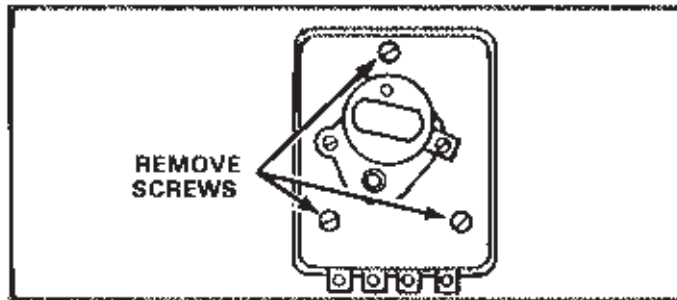

FIGURE 6
- 3 - Remove mounting screws and timer cover as shown in figure 6.